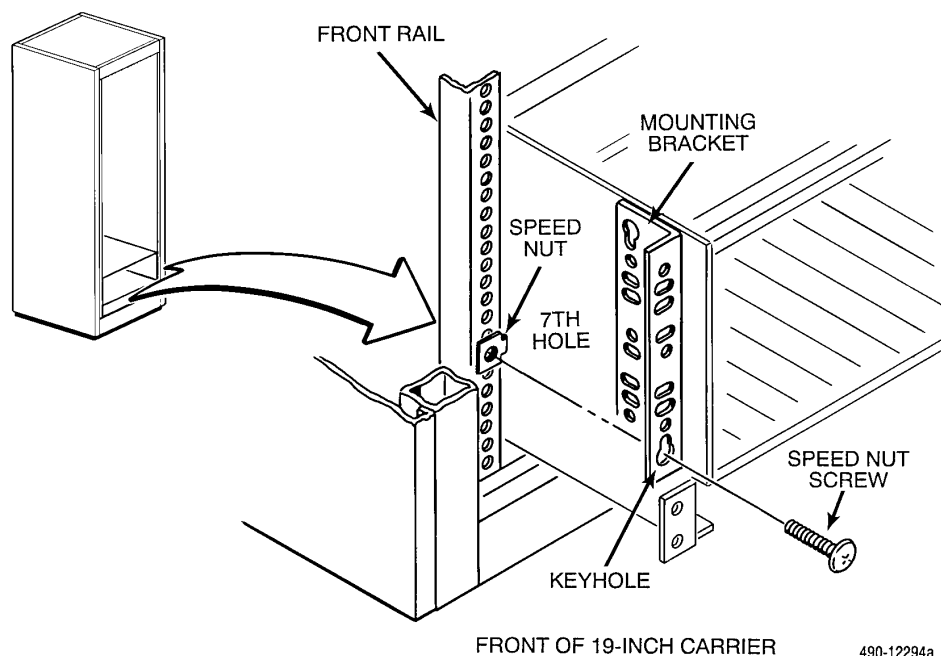

Figure 3-4. Installation of First Carrier into Cabinet with No Threaded Screw Holes
3. Slip a speed nut onto each rail hole selected, as shown in Figure 3-4, and align the hole of the speed nut with the hole in the rail.